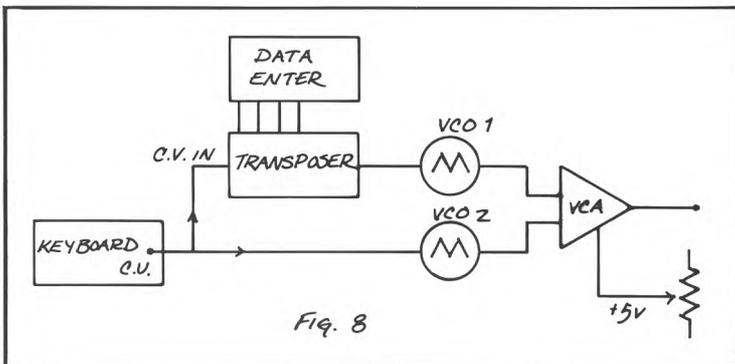

Fig. 8
14. I guess the best way to do this is now connect the transposers CV into keyboard. (Fig. 8) Press C2 on data keyboard and adjust for zero beat between the two VCOs when high 'C' on